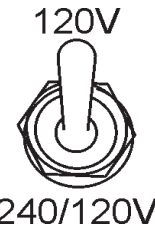

Figure 9. Power Switch
- Place the full power switch (Figure 9) in the 120V or 240/120V position depending on application.